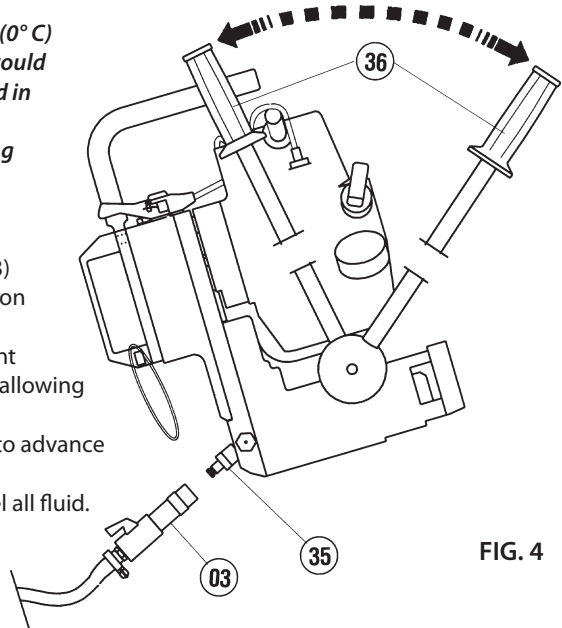

FIG. 4
*Proceed as follows (Fig. 4):*
- Disconnect the quick coupling (03) from the coolant attachment (35) on the drilling machine.
- Operate the advancing lever (36) to advance and retract the drilling spindle.